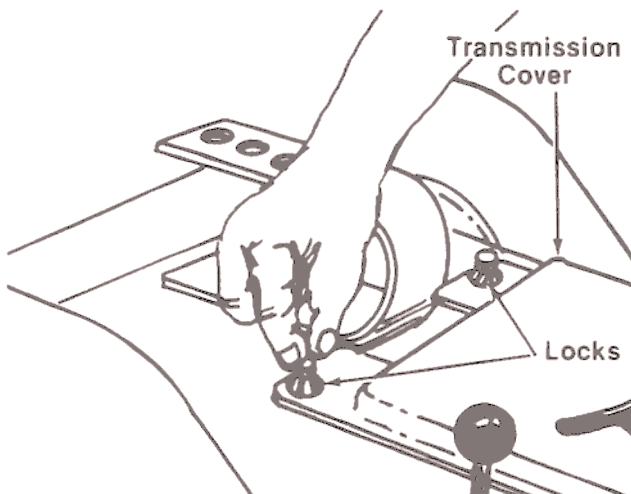

FIGURE 5.
2. Push down and turn the locks on the transmission cover one-quarter turn. See figure 5.